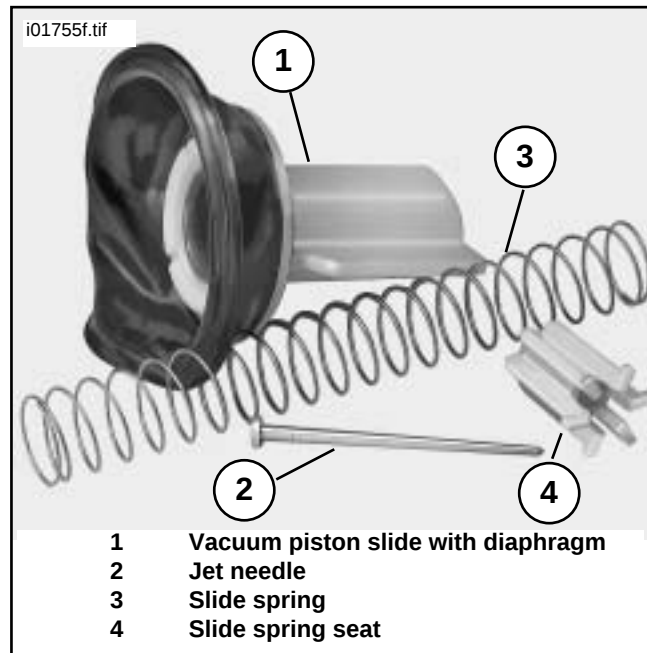

Figure 1. Vacuum Piston Chamber Slide Components
1. See Figure 1 and Service Parts Illustration. Remove the carburetor top. Remove the vacuum piston lift slide, slide spring, and spring retainer from the carburetor. Remove the stock needle. Locate the slide lift hole. Using the slide drill (15) supplied in kit, enlarge the slide hole. **Do not drill the needle hole.**
2. See Service Parts Illustration. Install the E-Clip (8) to the new DYNOJET needle (7) at groove #3. Install the DYNOJET washers (9) above the E-Clip.